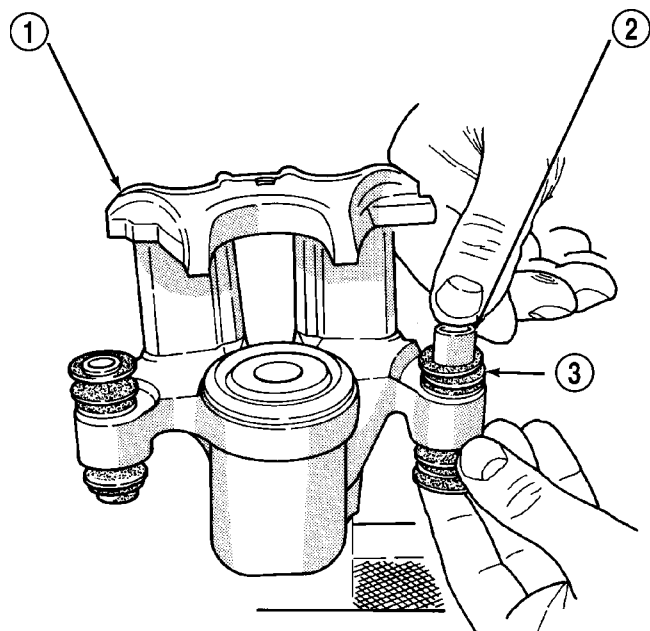

Fig. 35 Installing Sleeve In Bushing 9105-60
(5) Install the guide pin sleeve into one end of bushing until the seal area of bushing is past the seal groove in the sleeve (Fig. 35).
(6) Holding the convoluted boot on the opposite end of the bushing, push the steel sleeve through the bushing until the bushing boot is fully seated into the seal groove on that end of sleeve (Fig. 35). Install the other end bushing boot into the groove on that end of the bushing sleeve.